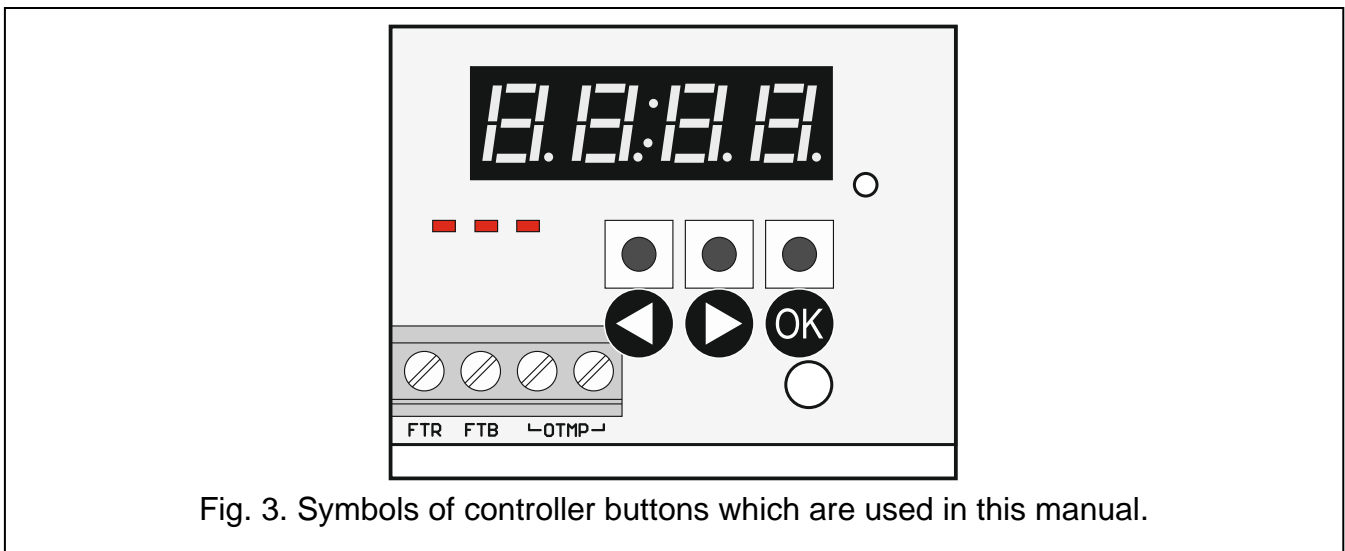

Fig. 3. Symbols of controller buttons which are used in this manual.
- ② LED indicating the status of FTR output (LED is ON when the output is connected to common ground).
- ③ LED indicating the status of FTB output (LED is ON when the output is connected to common ground).
- ④ LED indicating the status of OTMP relay output (LED is ON when relay contacts are shorted).
- ⑤ RS-232 port (TTL standard) for programming of the controller and updating of controller firmware. To connect the controller to a computer, you can use the USB-RS converter, which is offered by SATEL.
- ⑥ tamper switch.
- ⑦ bi-color LED to indicate the following states:
- ⑧ display.
- ⑨ buttons (see: Fig. 3, p. 8).
1. Press simultaneously the ◀ and OK buttons (see Fig. 3) and hold them down for about 4 seconds, until flashing digit 1 appears in the first position on the display.